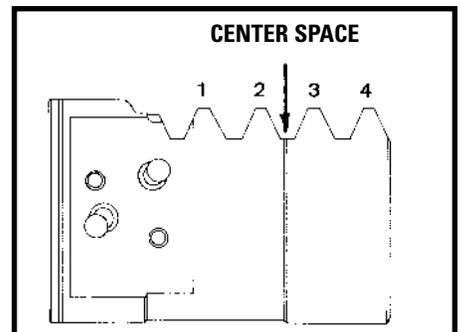

Figure 148
- 43. There are four teeth on the rack piston (29) SEE FIGURE 148. Position the tooth space between the second and third teeth in the center of the housing sector shaft cavity. SEE FIGURE 149. This will center the rack piston in the cavity.